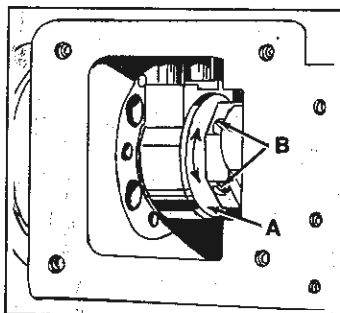

FIGURE 15
The timing of the spreader travel is determined by the position of the spreader drive eccentric (A, Fig. 15) on the crankshaft. To check the timing, rotate the handwheel so that the needle bar is at its highest point. Continue to rotate the handwheel until the needle bar has descended  $\frac{1}{8}$  inch (3.18 mm). The spreader should now begin to move to the right. To change the spreader timing, loosen screws (B), then advance or retard eccentric on the shaft as required. Tighten screws (B).